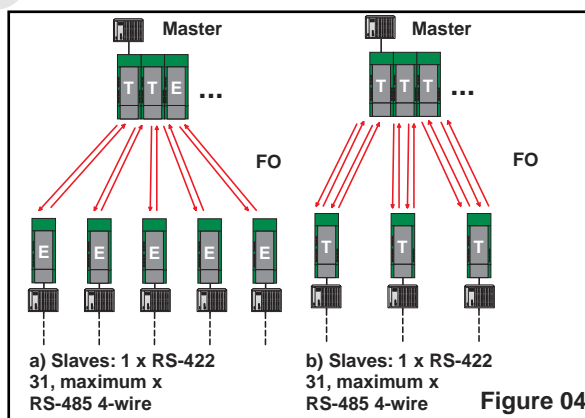

Figure 04
2.3 Star Structures/Redundant Star Structures (Figure 04)